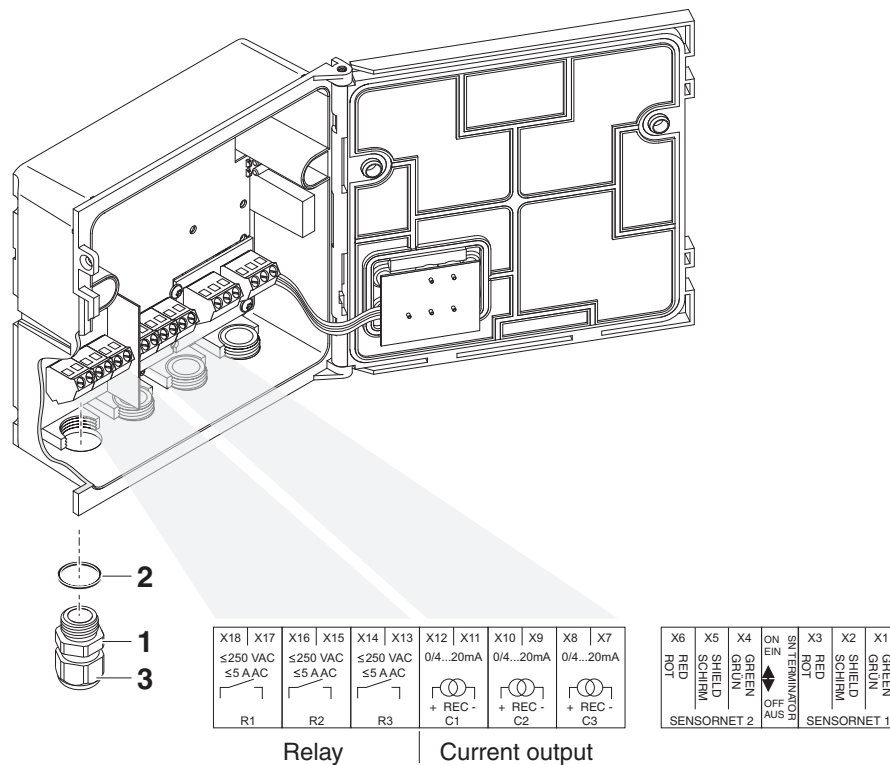

Fig. 3-1 Terminal strip with the relay and current connections
- 2 | Screw the cable gland (pos. 1 in Fig. 3-1) with the sealing ring (pos. 2) into the module housing.
- 3 | Loosen the coupling ring (pos. 3 in Fig. 3-1).
| 6 | Tighten the coupling ring (pos. 3 in Fig. 3-1). |